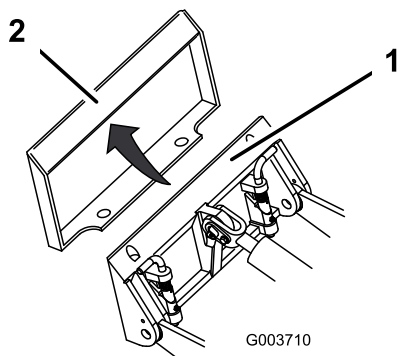

Figure 20
4. Position the mount plate into the upper lip of the attachment receiver plate (Figure 20).